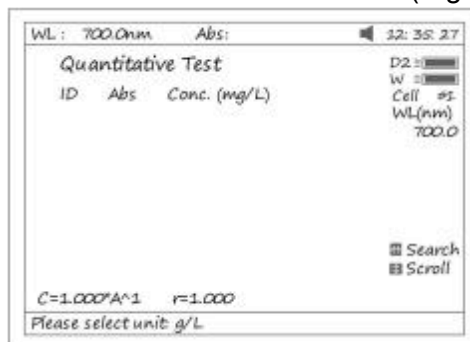

Fig 27
1. Press **【F1】** to select unit of concentration (Fig 27).